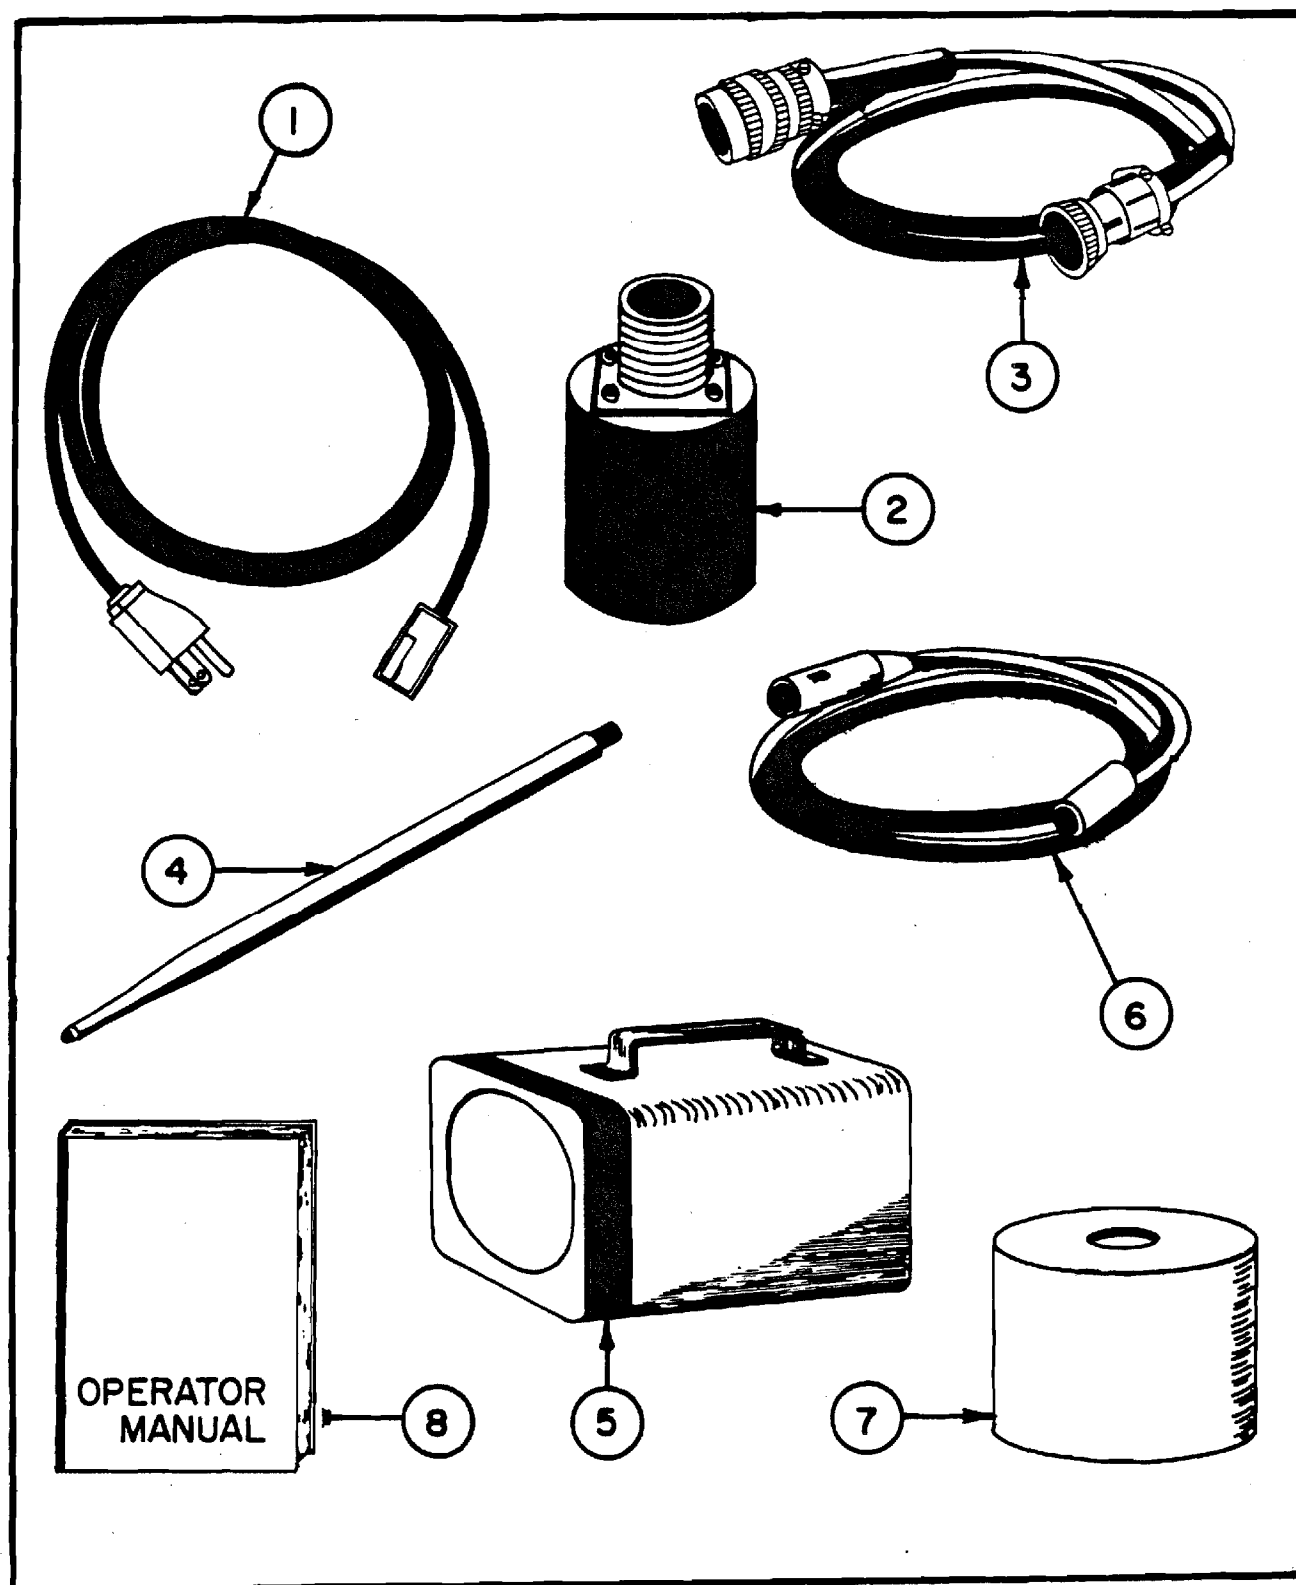

FIGURE 2-4 STANDARD ACCESSORIES FOR MODEL 880 INSTRUMENT
1) POWER INPUT CABLE (Fig. 2-4, Ref. 1)
2) ACCELEROMETER MODEL 970 (Fig. 2-4, Ref. 2)
3) ACCELEROMETER PICKUP CABLE (Fig. 2-4, Ref. 3)
4) STRAIGHT PROBE (Fig. 2-4, Ref. 4)
5) STROBE LIGHT (Fig. 2-4, Ref. 5)
6) STROBE LIGHT CABLE (Fig. 2-4, Ref. 6)
8) OPERATOR MANUAL (Fig. 2-4, Ref. 8)